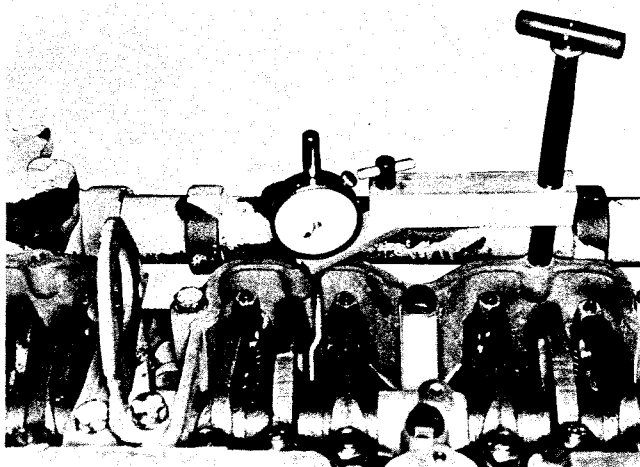

Fig. 2-58, (N114231). Dial indicator in place - extension in contact with plunger
2. Set up ST-1170 Indicator Support with indicator extension on injector plunger top at No. 3 cylinder, Fig. 2-58. Make sure indicator extension is secure in indicator stem and not against rocker lever.